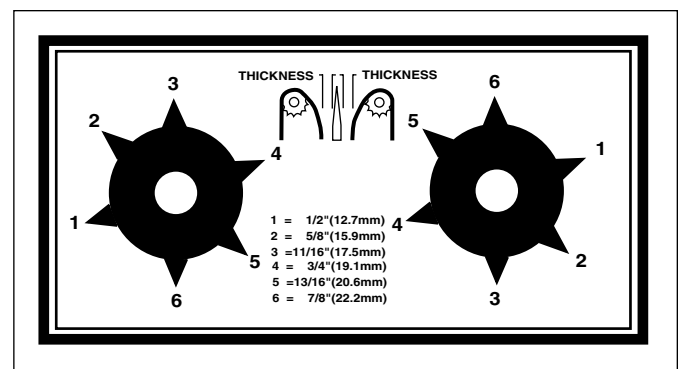

Figure 6. Bun Thickness Adjustment Controls
1. Set the bun adjustment controls (Figure 6) to desired setting.
3. Turn bun compression Control Knobs to "6" (Figure 6).